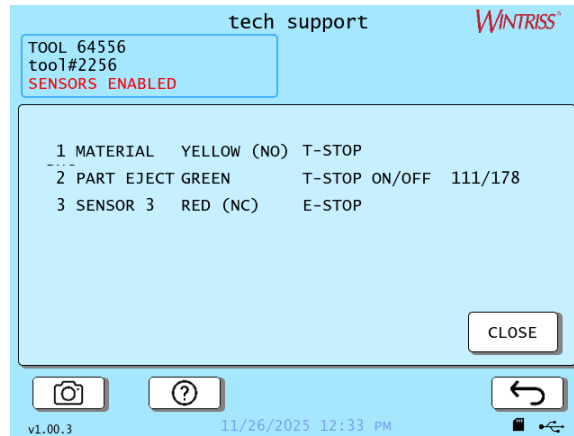

Figure 5-4. Die Protection Sensor Summary Screen
- **Sensor Summary:** Press VIEW SENSOR SUMMARY. The summary appears, Figure 5-4.